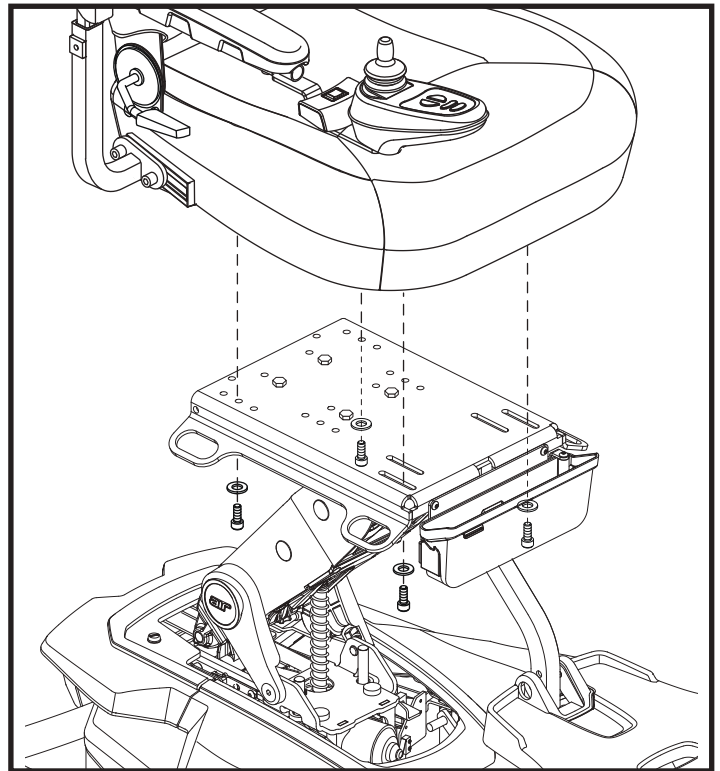

Figure 10. Seat Installation
9. Tip the seat backward. Insert the front bolt with washer through the slot in the seat plate and align with tapped hole in the underside of the seat. Start tightening by hand, leaving the bolts loose. See **figure 10**.